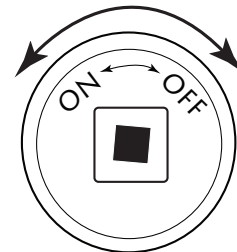

Fig. 7. Key Valve Face
1. Insert key into shut-off valve and secure into square end (see figs 7 & 8).